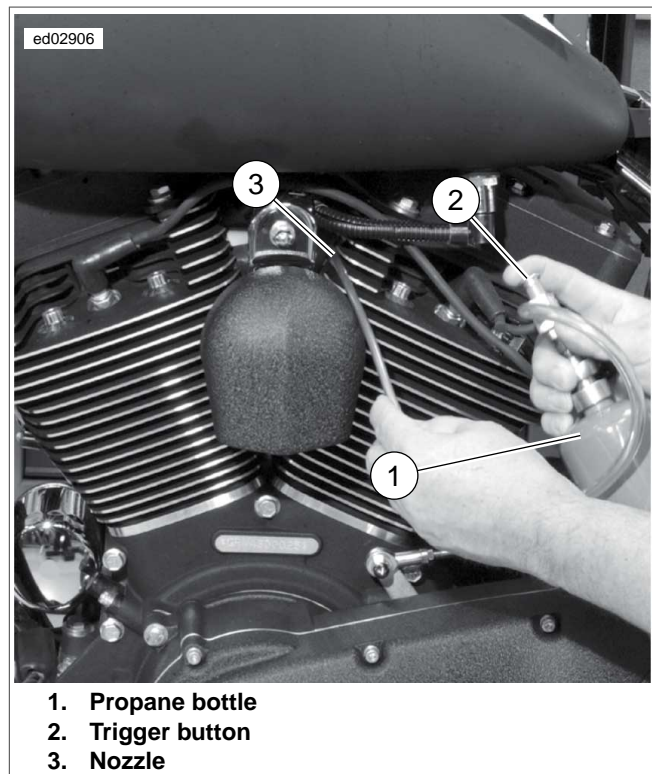

Figure 4-14. Checking for Leaks (Softail shown, FXCW similar)
- See Figure 4-14. Aim nozzle (3) toward possible sources of leak such as intake manifold mating surfaces.
4. Push trigger button (2) to release propane. Tone of engine will change when propane enters source of leak.